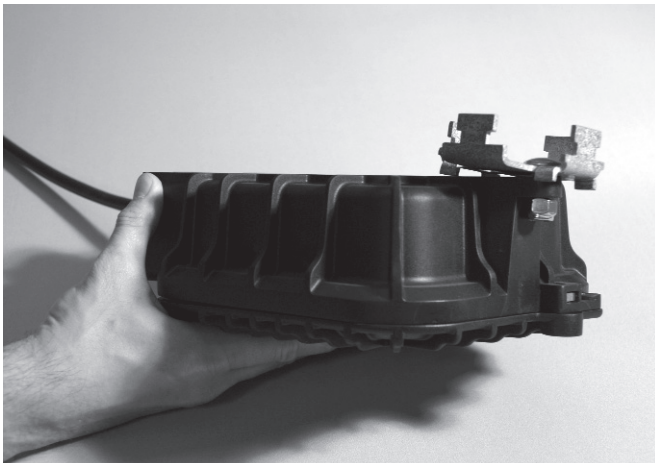

Figure 1
1. Attach the rack mounting bracket to the hole in the closure using the supplied bolt and nylock nut. (Figure 1)